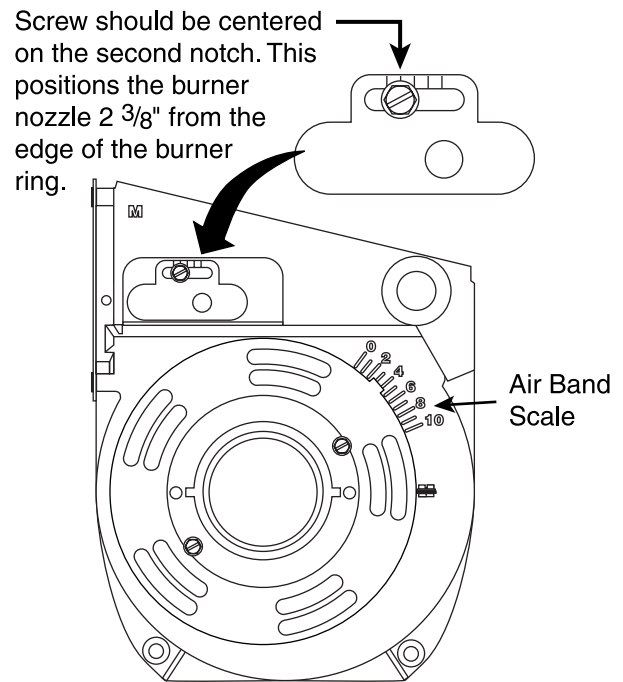

Figure 21. Nozzle Adjustment
2. Install electrode assembly into air tube unit. Use escutcheon plate for mounting (see Figure 21).